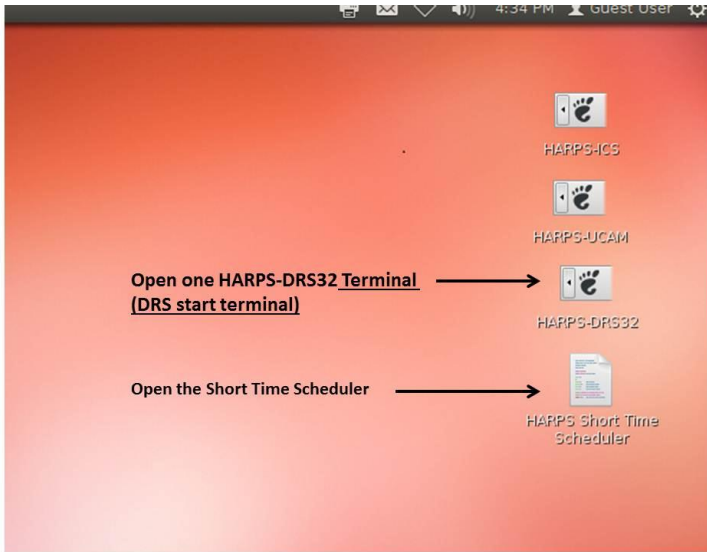

Figure 11 - brunello workstation desktop
- 1) Open a HARPS-DRS terminals by clicking the HARPS-DRS icon in the **brunello** workstation, Figure 11 (or execute: `ssh -Y harpn@drs32.hn` from a linux machine)